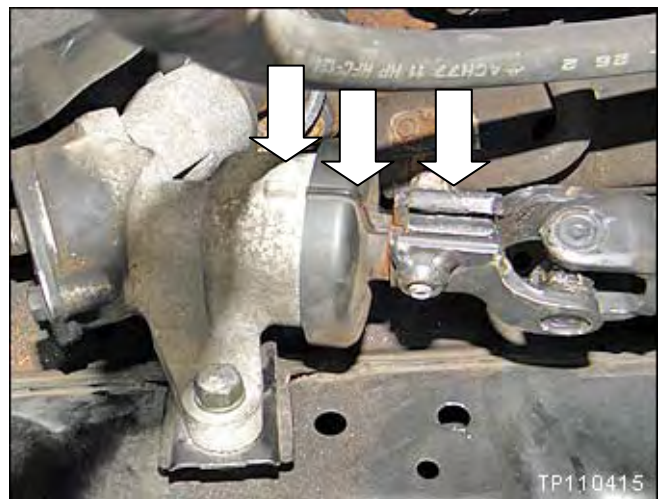

Figure SS5
**NOTE:** The marks shown in Figure SS5 should be aligned.
- Make sure shaft end at the steering gear assembly is aligned correctly (see Figure SS5 on page 43).